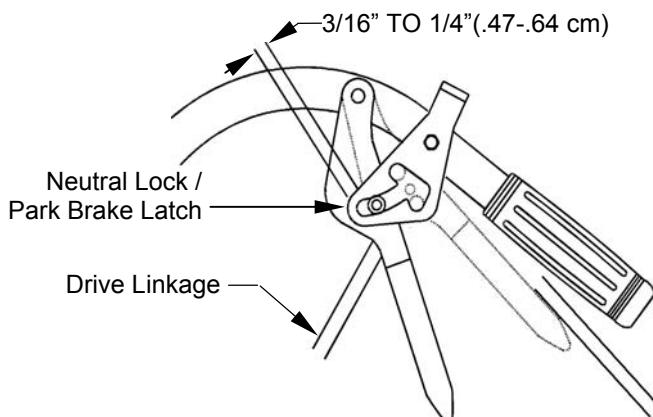

FIGURE 10
- c) Adjust drive linkage length by threading into or out of the swivel until there is a 3/16" to 1/4" (.47-.64 cm) clearance between the linkage assembly and the bottom of the slot in the neutral lock/park brake latch (See Figure 10).